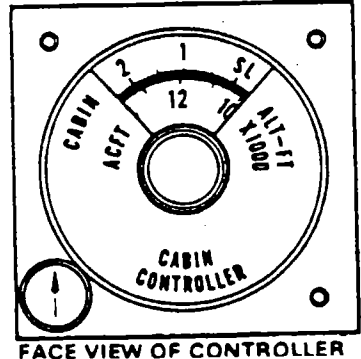

Figure 21-4. Cabin Air Pressure Outflow Valve Controller Schematic
3. **Cabin Pressure Controller:** (Refer to Figure 21-4.)